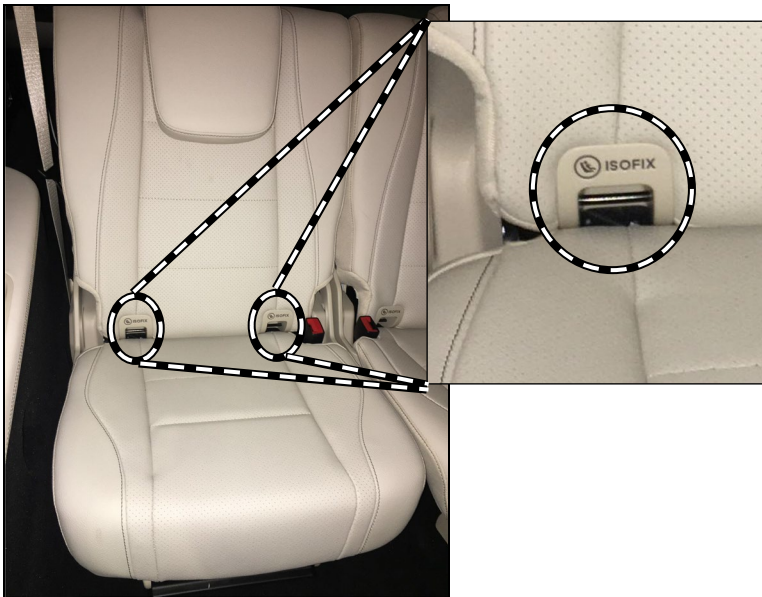

Figure 6
9. Check whether the covers for the child seat anchors at the second seat row are present and correspond to the correct equipment variant (**figure 6 - sample illustration**).
10. Check whether the covers for the child seat anchors at the third seat row are present and correspond to the correct equipment variant (figure 6 - sample illustration).